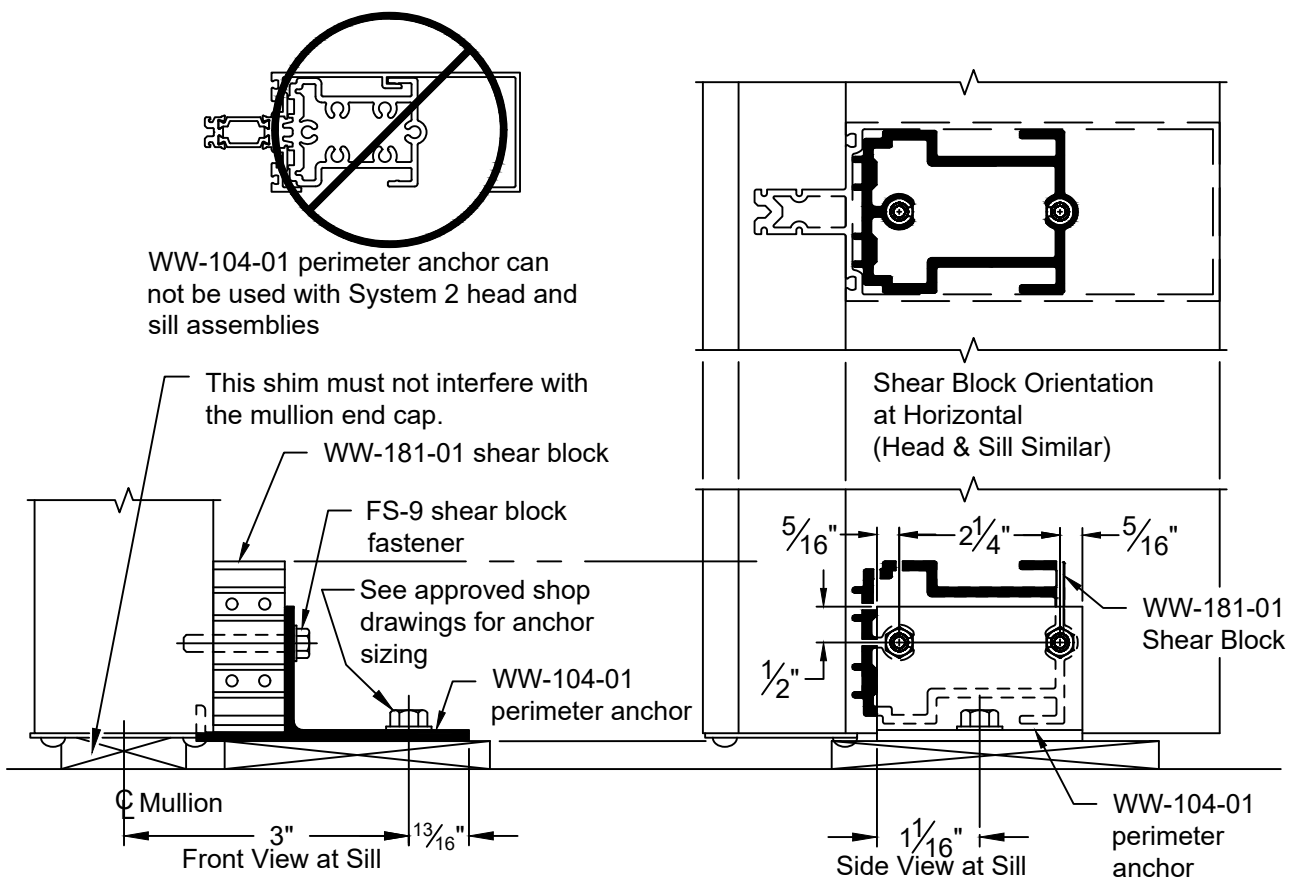

FIGURE 6
2.1.1 Attach shear blocks to all vertical mullions. The integral perimeter anchors are designed for use with standard shear blocks. Note; the WW-104-01 anchor may not be used with Type II head or sill horizontals having an "AW" part number. **SEE FIGURE 6** for proper orientation and installation on mullion. **NOTE: Depending on the end reactions, either the integral perimeter anchor or tee anchors can be used to anchor the wall. For end reactions above 750 pounds, use "T" anchors.**
2.1.4 Attach shear blocks to all vertical members. **SEE FIGURE 6, page 12** for proper orientation on mullion. For installations using the integral perimeter anchors, attach to head and sill shear block. **NOTE: Depending on the end reactions, either the integral perimeter anchor or "T" anchors can be used to anchor the wall. For end reactions above 750 pounds, use "T" anchors.**